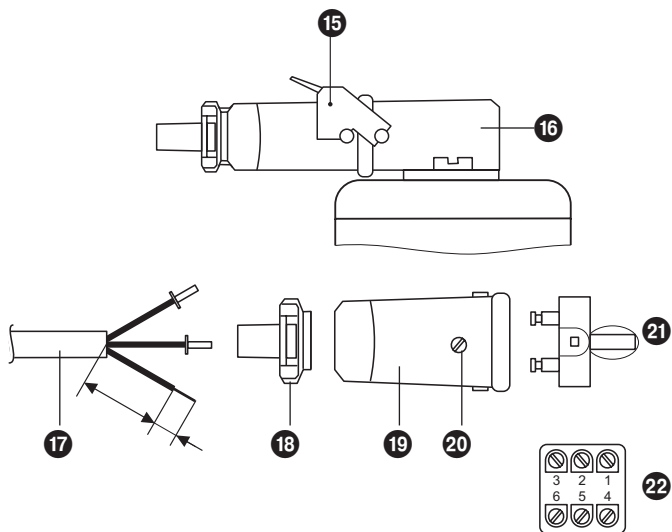

Fig. 4
- Turn up the retaining bracket **15** and detach the upper part of the connector **19** from the level electrode. **Fig. 4**
1. Turn up the retaining bracket **15** and detach the upper part of the connector **19** from the level electrode. **Fig. 4**